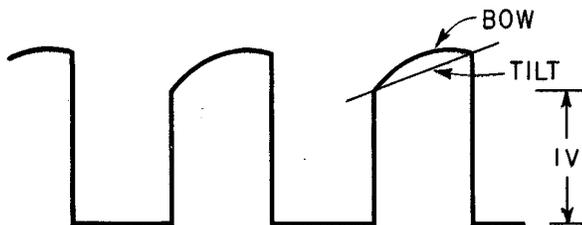

Fig. 2 — 60-Cycle Square Wave Test Signal
- (a) Set the 61C Signal Generator to 60-cycle SQUARE WAVE OUTPUT, (Output 1 and Output 2 Switches to 60-cycle SQUARE WAVE) and use the 1-volt peak-to-peak output signal as illustrated in Fig. 2.
- (d) Vary the LOW FREQUENCY ADJUST control for a minimum of tilt as observed on the square wave display as illustrated in Fig. 2. This control is located on the top, left rear of the vertical amplifier subchassis.